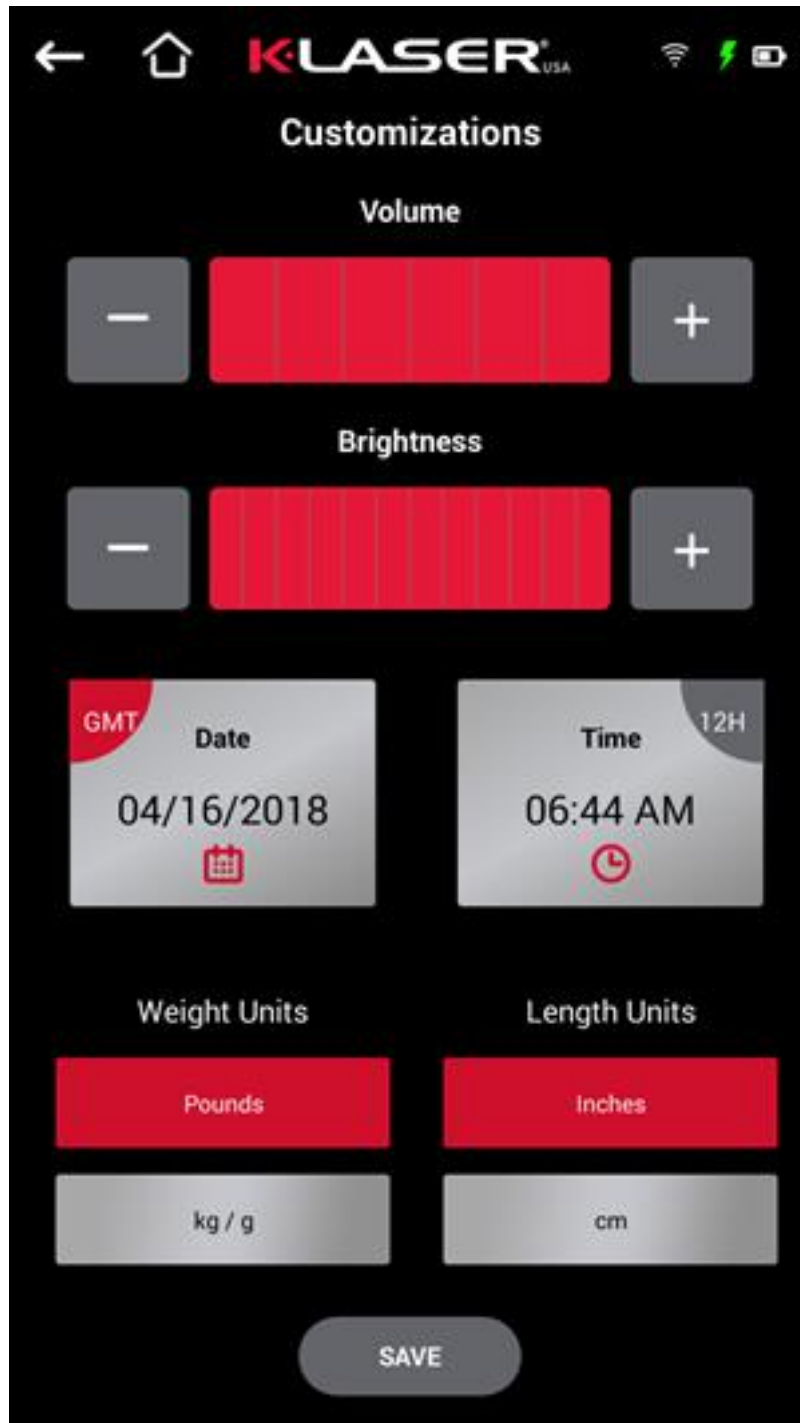

Figure 11: Customizations Parameter Settings interface
3) Click “CUSTOMIZATIONS” to enter the customizations parameter settings interface (Figure 11). You can set the device's sound size, brightness, date, time, unit of measure and other parameter settings.